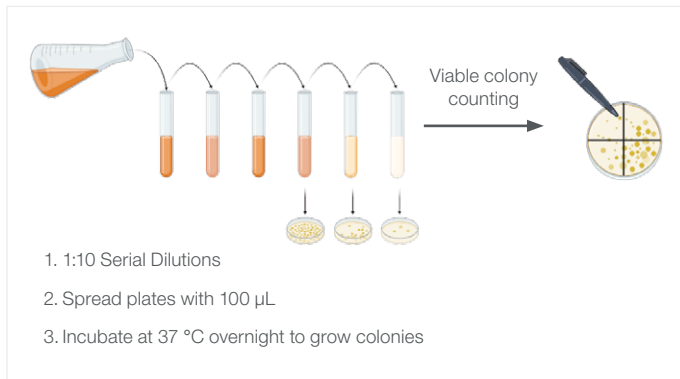

Figure 4. Viable cell counting procedure. Created with BioRender.com.
- a. If the plate has too many colonies, use a marker to divide the plates into quadrants. Count one quadrant and multiply by 4 to estimate the total number of colonies on the plate (See Figure 4).